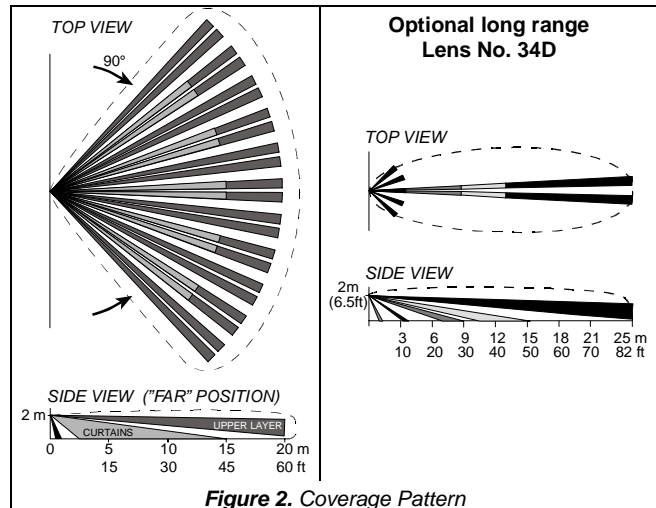

Figure 2. Coverage Pattern
**Front Lens Data** (see Figure 2)
**Optional Long Range Lens 34D** (see figure 2)
**Caution:** with brackets in use, effective detection ranges may differ from those indicated in Figures 2 and 8.
**Caution!** With swivel brackets in use, the effective detection ranges may differ from those indicated in Figures 2 and 8.